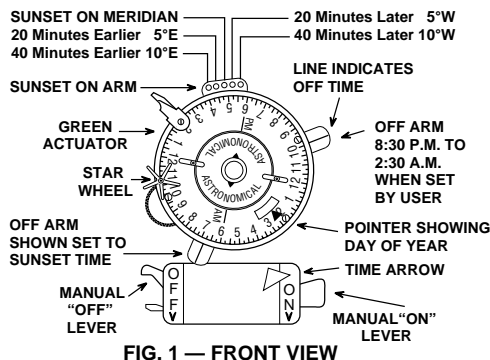

FIG. 1 — FRONT VIEW
**TO SET ON AND OFF TIMES:** First set dial to correct day of year by turning 5 point star wheel in either direction until the proper month and day are indicated by the day-of-year pointer. See figure 1. In operation, this wheel advances one spoke each day. Turn wheel until arrow indicates line dividing current month from previous month. Then turn wheel clockwise one spoke for each day passed since 1st day of month. ABOVE PROPERLY POSITIONS ON AND OFF TRIPPERS SO CONTROL WILL TURN ON AT DUSK AND OFF AT DAWN, adjusting each day to compensate for solar changes.